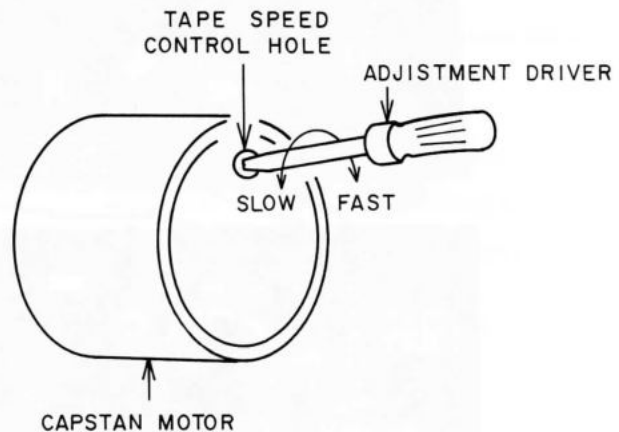

Fig. 4-2 Adjustment point of Tape speed.
- 3) Adjust Tape Speed Control in the CAPSTAN Motor as shown Fig. 4-2 so that the readings on the Frequency Counter are below.